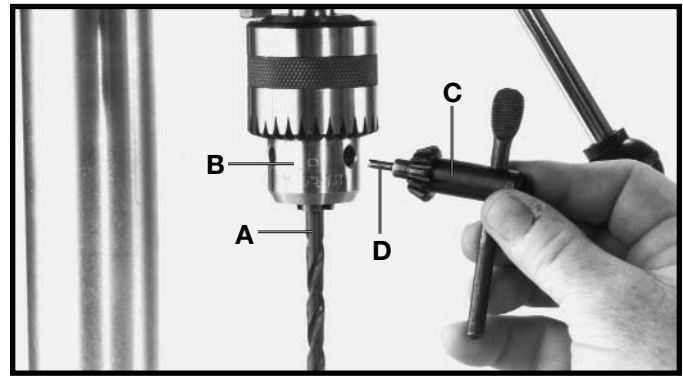

Fig. 29
2. Insert smooth end of drill bit (A) Fig. 29, into chuck (B), as far as it will go, and then back the bit out 1/16", or up to the flutes for small bits.
3. Make certain that the drill bit (A) Fig. 29, is centered in the chuck (B) before tightening the chuck with the key (C).
4. Turn the chuck key (C) Fig. 29, clockwise to tighten and counterclockwise to loosen the chuck jaws.
6. **MAKE SURE** chuck key (C) Fig. 29, is removed from chuck before starting drill press. Your chuck key (C) is equipped with a self-ejecting pin (D) which helps minimize the hazard of the key being left in the chuck.